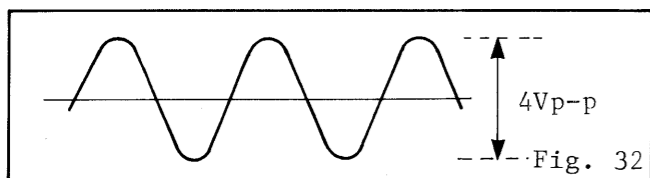

Fig. 32
- (1) Connect oscilloscope to TP4 pin 1 (CH1).
- (2) Press any key and adjust RES VR1 (CPU BOARD) for 4Vp-p. (Fig. 32)
- (3) Repeat steps (1) and (2) for TP4 pins 2-6 (CH2-CH6).